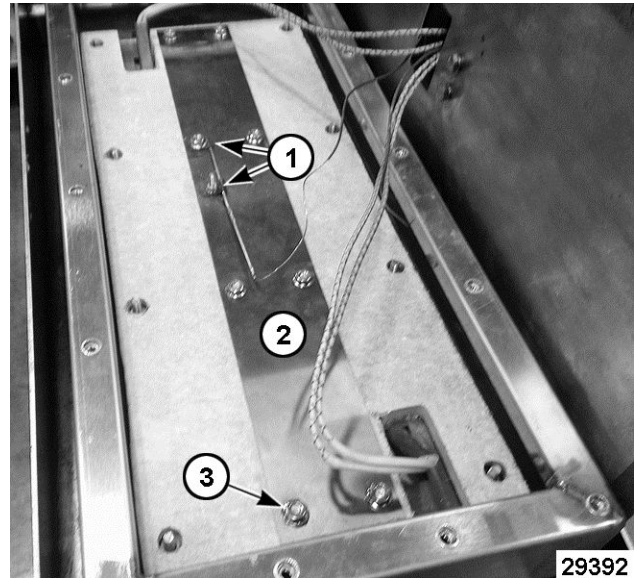

Fig. 33
5. Remove mounting clips (1, Fig. 33) securing high limit capillary bulb to platen insulation retainer (2, Fig. 33).
6. Remove the remaining 7 mounting nuts (3, Fig. 33) from platen insulation retainer.